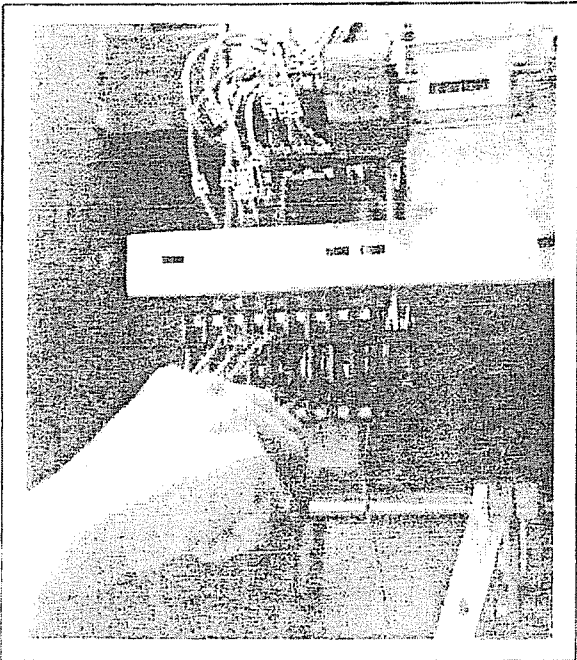

Figure 44
5. Insert a thin bladed screwdriver between the metal cam and the notched ring of the contact to be adjusted to separate and release the indentation in the metal cam from the notched ring. See Figure 44.